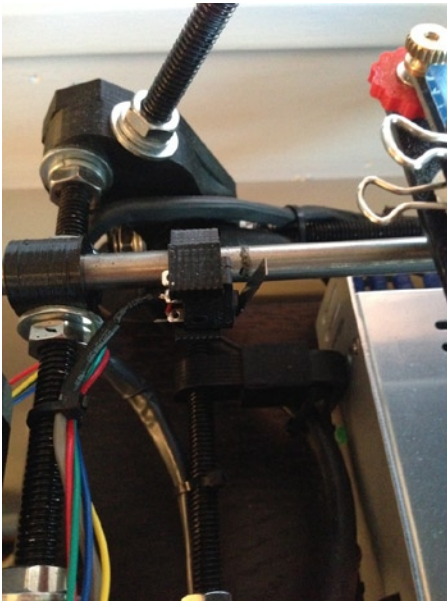
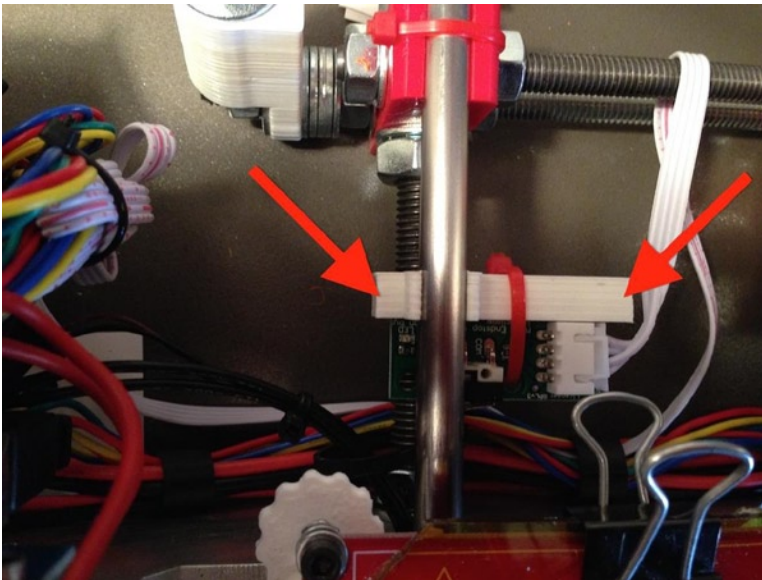

Figure 5-4. *Y-axis endstop location Prusa i2*
Figure 5-5. *Y-axis endstop location Prusa i3*
The most common location for the Y-axis endstop is under the print bed at the rear of the Y-axis mechanism. Sometimes you will see endstops mounted on the smooth rods; other times they are mounted on the threaded rods or similar frame components. Figure 5-4 shows the Y-axis endstop for a Prusa i2 and Figure 5-5 shows the Y-axis endstop for Prusa i3.
■ **Note** The view for Figure 5-5 is taken from above. The arrows show the location of the endstop.